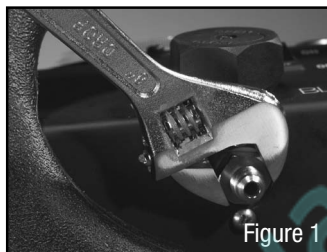

Figure 1
- Use 5/8" socket or box end wrench to loosen suction port (Figure 1)